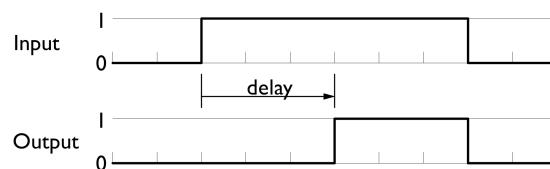
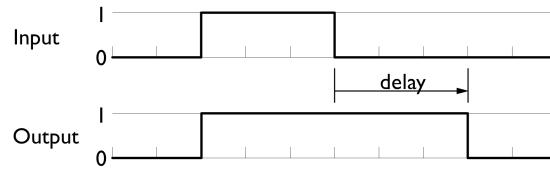

Figure 7.15: Off Delay Timer
Figure 7.16: Off Delay Timer
- **On-Delay** This type of timer “delays turning on”. After triggering the timer, there will be an adjustable delay before the output of the timer is activated. The timer turns off when the input turns off. This is the most common timer and is sometimes called TON. See the timing diagram shown in Figure 7.15.
- **Off-Delay** This type of timer is the opposite; it “delays turning off”. When the timer is triggered, the output is turned ON. When the trigger signal goes away, the output is held ON for an adjustable period before it is turned OFF. This timer is sometimes called TOF. See the timing diagram shown in Figure 7.16
Do the lamps follow the timing diagrams shown in Figure 7.15 and Figure 7.16?